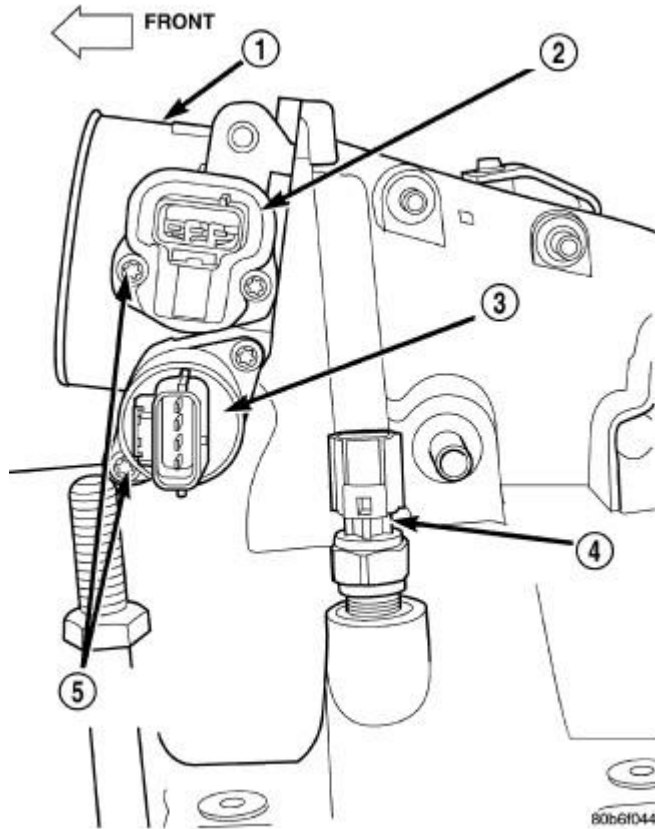

Fig. 7: Throttle Body Connection Points
17. Disconnect the engine wiring harness at the following points : Refer to **Fig. 7**.
- Intake air temperature (IAT) sensor (4)
- Throttle Position (TPS) Switch (2)
- Idle Air Control (IAC) Motor (3)